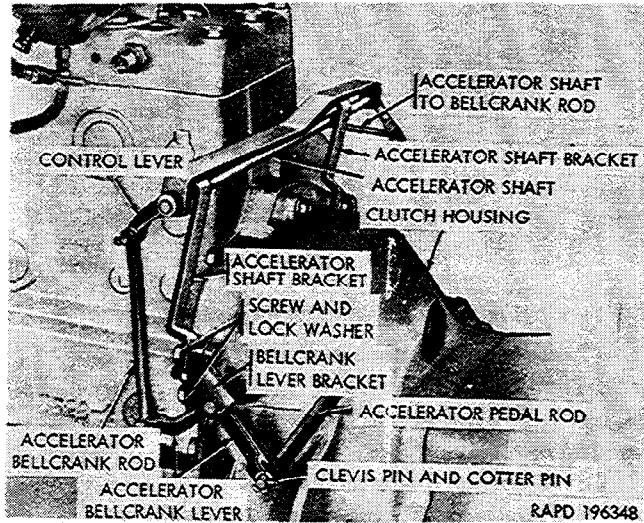

Figure 2-113. Accelerator shaft and linkage.
d. Remove Accelerator Linkage. Removal of various components of the accelerator linkage (fig. 2-113) may be accomplished without removing all of the linkage from the vehicle. However, if the accelerator shaft and connecting linkage requires replacement, remove the assembled parts as a unit.
(1) Detach the accelerator pedal rod from the accelerator bellcrank lever (fig. 2-113) by removing the cotter pin and clevis pin.
(3) Disconnect the right end of the accelerator shaft from the throttle control bellcrank rod by removing the cotter pin and flat washer, and pulling the rod from the end of the shaft.
(4) Remove the two screws and lockwashers that secure the accelerator shaft bracket and the accelerator bellcrank lever bracket to the left side of the clutch housing (fig. 2-113).
(5) Remove transmission access covers (para 2-75 g).
(6) Remove the capscrew and lockwasher that secure the accelerator shaft bracket to the right side of the clutch housing (fig. 2-113).
(7) Remove the accelerator shaft with assembled parts from the opening in the driver's compartment.
(8) Remove the two screws that secure the accelerator hinge to the left floor panel in the driver's compartment, and remove the accelerator pedal and pedal rod.
(1) If the weatherseal for the accelerator rod was removed (e (1) above), install a new weatherseal in the floor panel.
(2) Insert the accelerator pedal rod through the weatherseal and position the pedal in the floor panel. Install the two self-locking washers and screws.
(3) Insert the accelerator shaft and assembled parts through the opening in the driver's compartment, and position the shaft bracket on the clutch housing (fig. 2-113) with the screw holes in the bracket aligned with those in the clutch housing. Secure the shaft bracket to the right side of the clutch housing with a capscrew and lockwasher. Do not tighten the screw at this time.
(4) Position the accelerator bellcrank lever bracket between the accelerator shaft bracket and the left side of the clutch housing (fig. 2-113), align the screw holes, and install the two capscrews and lockwashers. Tighten the screws.
(5) Tighten the capscrew that secures the shaft bracket to the right side of the clutch housing.
(6) Install the transmission access covers (para 2-76 f).
(7) Attach the throttle control bellcrank rod to the right end of the accelerator shaft, and install the flat washer and cotter pin.